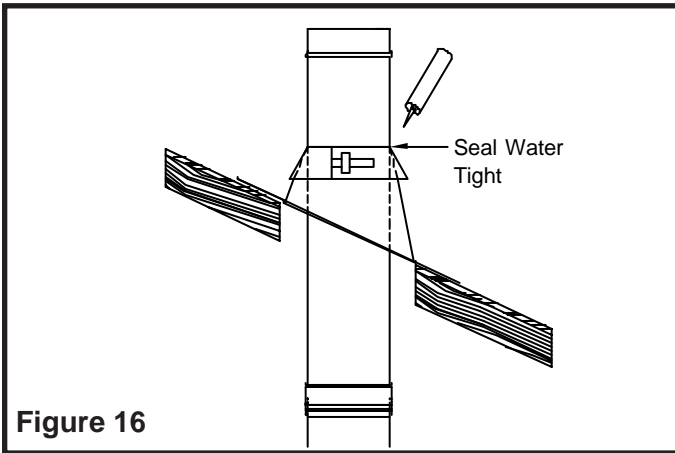

Figure 16
10) Once all the vent sections (not including the Vertical Termination) have been installed and all supports are securely fashioned, the Storm Collar must be installed over the Roof Flashing and adequately sealed to prevent rain entry. Use of MST Tape or a weather resistant silicon sealant (or equivalent) is required. Install the Storm Collar tightly over the vent pipe and press securely onto the Roof Flashing and apply a water tight seal (See **Figure 16**).